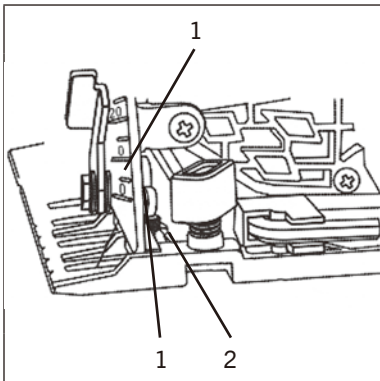

FIG. 6
1. Set the bevel angle to 0° (1) (Fig. 6).
3. If the angle is NOT 90°, use a 2.5 mm hex key and adjust the 0° set screw (2) so the angle is 90° when the 0° stop contacts the set screw.